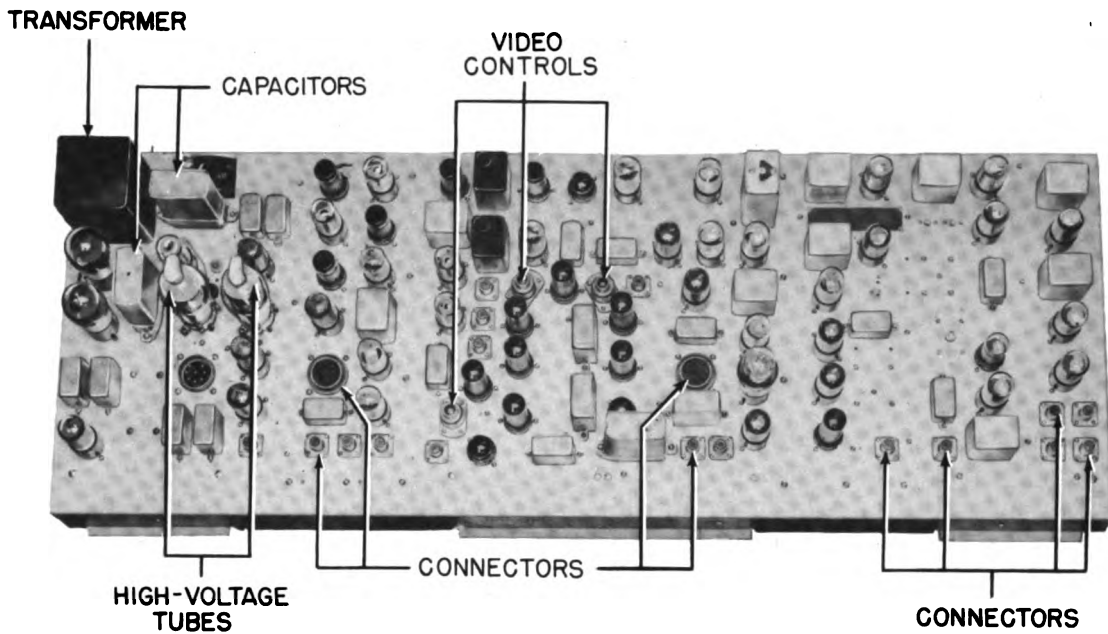

Figure 4-41. Range unit, top view.
(1) Remove the upper rear panel from the console.
(2) Remove the top lids of the console.
b. Maintenance Procedure (figs. 4-41 and 4-42).
(1) All tubes for dirt and loose mounting (par. 2-2). Check the tube clamps and the tube caps of the two high-voltage tubes for looseness and corrosion.